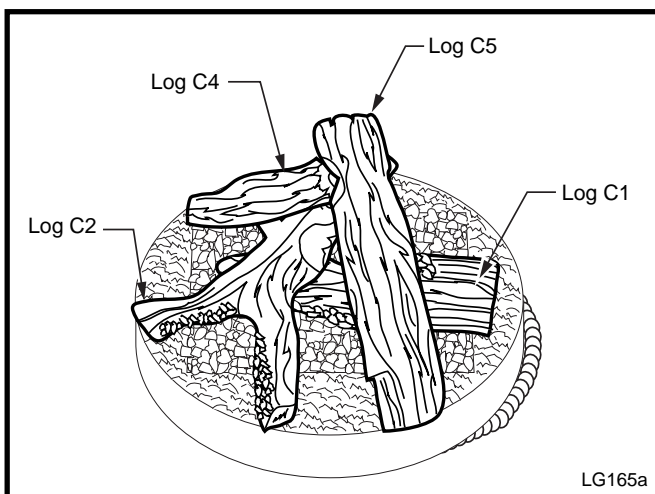

Fig. 14 Log C5 placement.
- Flex line on right. Place log C5 with the notch at the top resting next to log C3. (fig. 14)